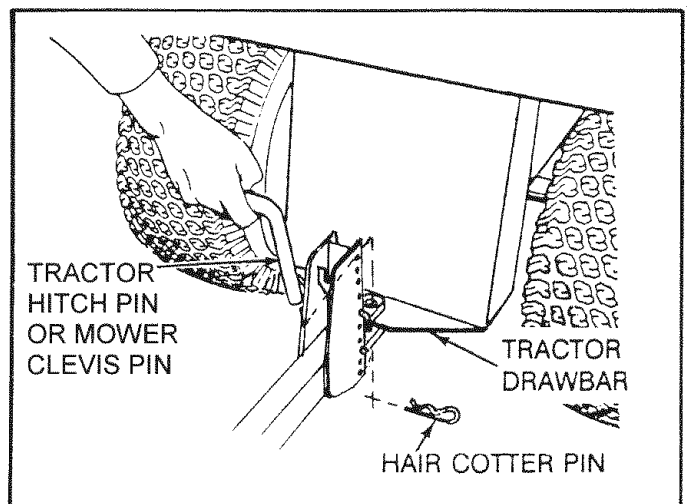

FIG. 5
- Place mower behind tractor and back tractor up to it for attaching. (See Fig. 5)